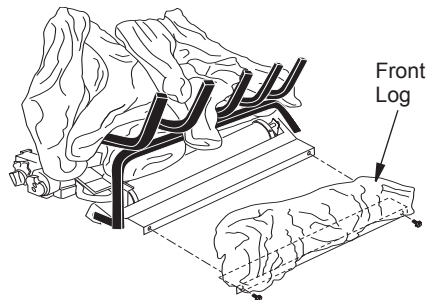

Figure 23 - Removing Front Log to Clean Front Burner
1. Remove the two screws that hold the front log bracket onto the assembly (see Figure 23). The log is attached to this bracket. Gently lift up on the log and bracket. Set aside.